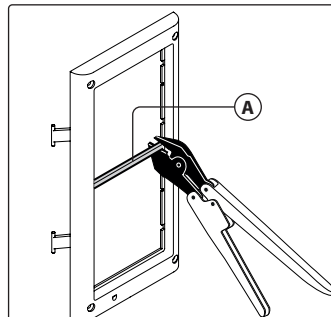

Fig. 13
- In order to proceed with the panel installation with Art. 4852 or Art. 4882, remove the cross bar **A** from the support frame as shown in **Fig. 13**.